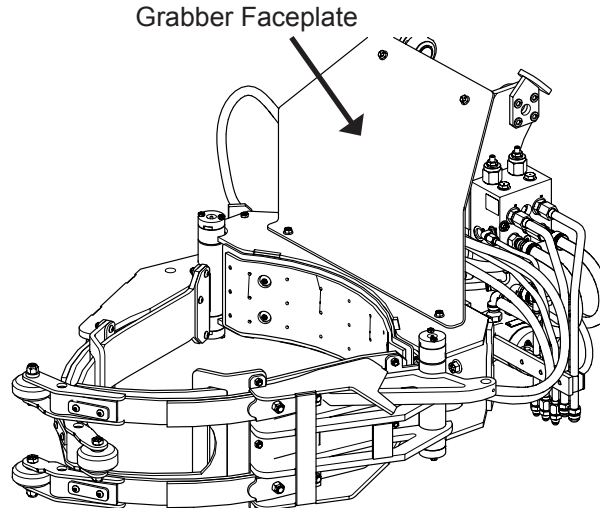

Figure 1
2. Remove the grabber faceplate. Retain it and its hardware for reinstallation (Figure 1).